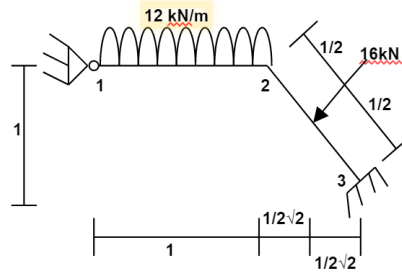

Figure 6
- (b) For the following frame shown in Figure 6, determine the rotation of the joints and the bending moment diagram. Neglect axial deformation. Take  $EI = 1 \times 10^5 kN - m^2$ . [7M]